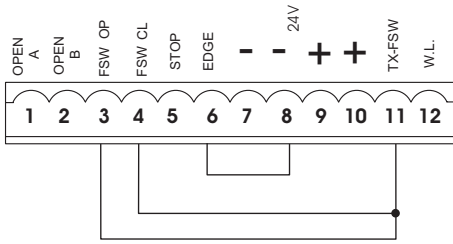

Fig. 33
**N.B.** If safety devices are not used, jumper connect the terminals as shown in fig. 33.
**NB.: If no opening safety devices are connected, jumper connect inputs OP and -TX FSW (fig. 33).**
**NB.: If no closing safety devices are connected, jumper connect terminals CL and -TX FSW (fig. 33).**
**NB.: If edge safety devices are not connected, jumper connect the EDGE and - inputs. (fig. 33).**